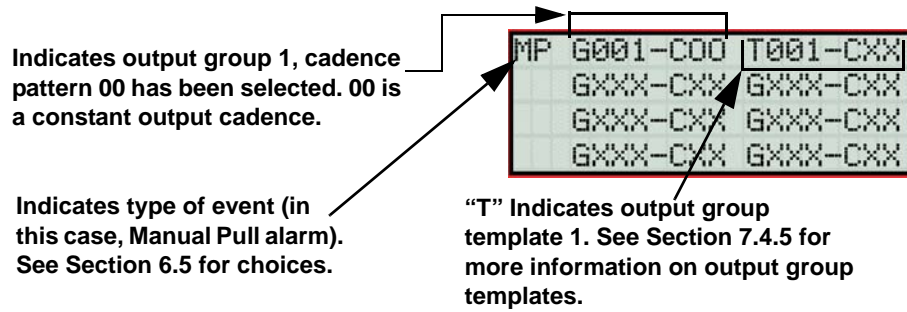

Figure 7-3 Selecting Output Groups/templates and Cadence Patterns for a Zone Event
*Note: Abbreviations in the parentheses are the characters that are displayed in programming (see Figure 7-3).*
- Manual Pull Alarm (MP)
- Water Flow Alarm (WF)
- Detector Alarm (DE). This applies to heat or smoke detectors.
- Pre-alarm (PR)
- Supervisory (SU)
- Trouble (TR)
- Status Point (SP)
- CO Smoke (CO)
6. From the next screen, a list of 8 event types will display. Select the event type you want to program. A screen similar to the one shown in Figure 7-3 will display.
- Select options for each event that could occur in this zone. Figure 7-3 is a complete example of how you might map a zone.